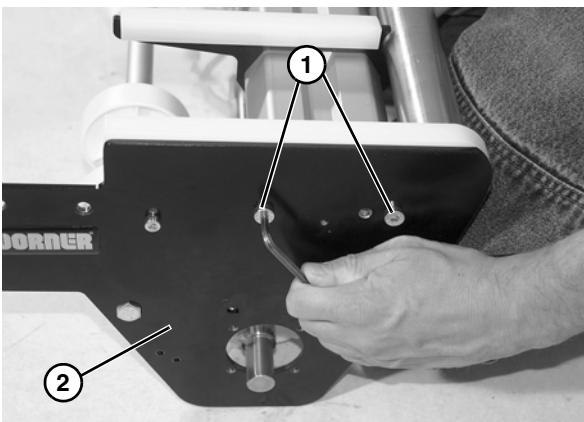

Figure 54
10. Remove two socket head screws (Figure 54, item 1) from end plate (Figure 54, item 2).